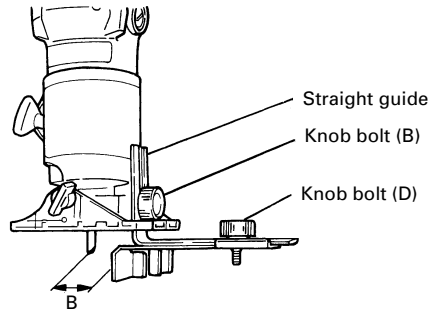

Fig. 10
- (1) Fit the straight guide with knob bolt (B) on the base and fix it.
- (2) Adjust the length "B" from the bit to the surface of straight guide by loosening the knob bolt (D) and moving the straight guide as necessary (Fig. 10)